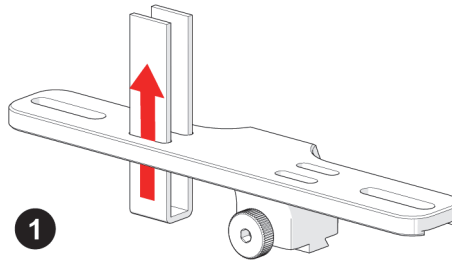

Figure 2-60 Insert straps
1. Slide the strap through the bracket's holes (see Figure 2-60 on page 77).